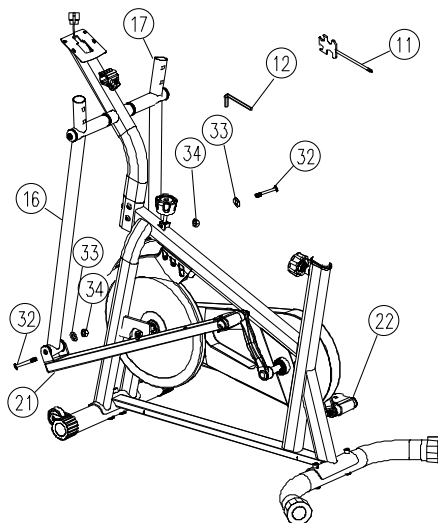

Figure 7
7. Mount the Left Pedal Tube (Part 21) onto the Left Swing Lever (Part 16), and the Right Pedal Tube (Part 22) onto the Right Swing Lever (Part 17). Insert one M10×75 hex socket button head screw (Part 32) through the assembled components, fit a $\Phi 20 \times \Phi 11 \times 2T$ flat washer (Part 33), then secure using the M10 plain nut (Part 34), as shown in Figure 7.